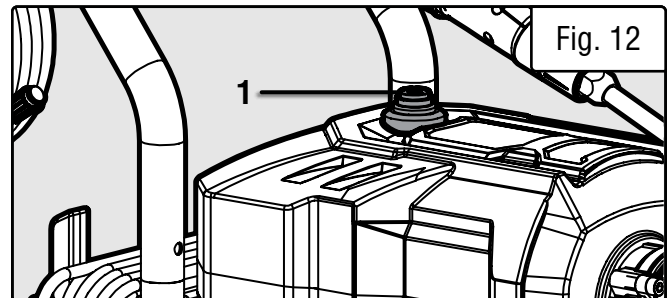

Fig. 12
1. Make sure that the power switch (Fig. 12 - 1) is switched to the OFF position before plugging the pressure washer into the power source.
5. Turn the power switch (Fig. 12 - 1) ON.